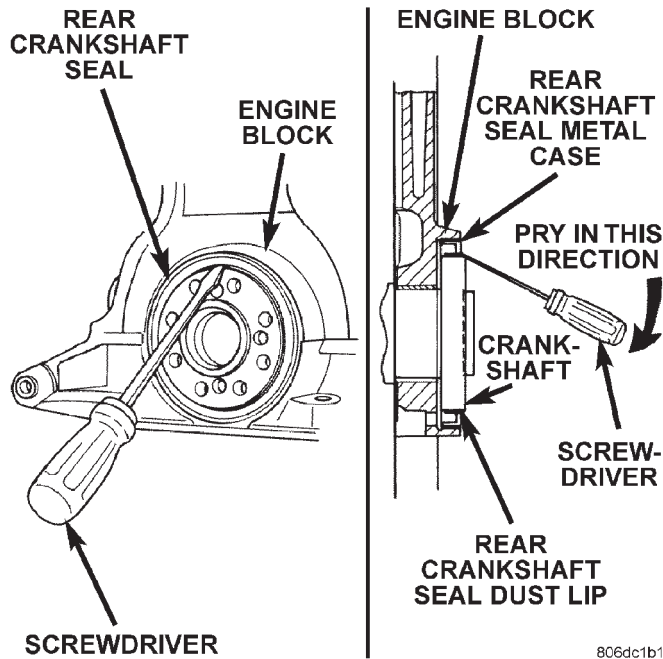

Fig. 82 Rear Crankshaft Oil Seal Removal—Typical
(1) Remove transaxle from vehicle. Refer to Group 21, Transaxle for procedure.
(2) Remove drive plate.
(3) Insert a 3/16" wide flat bladed screwdriver between the dust lip and the metal case of the crankshaft seal. Angle the screwdriver (Fig. 82) through